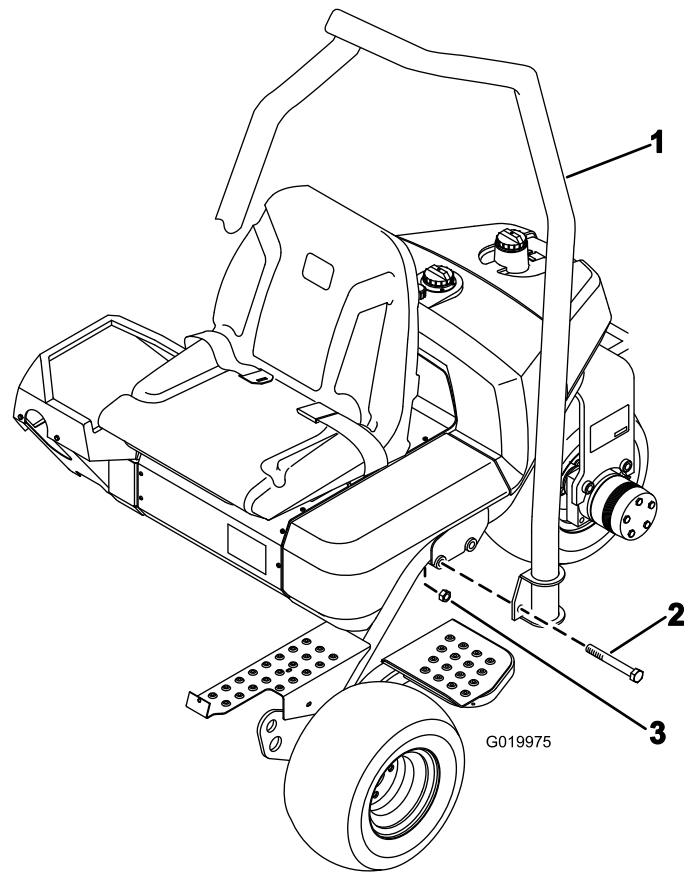

Figure 7
1. Position the ROPS so the top of the tube is curved toward the front of the machine (Figure 7).
2. Lower the ROPS onto the frame, aligning it with the mounting holes (Figure 7).
3. Secure each side of the ROPS to the frame with 2 bolts (5/8 x 4-1/2 inches) and locknuts as shown in Figure 7. Torque to 183–223 N-m (135–165 ft-lb).